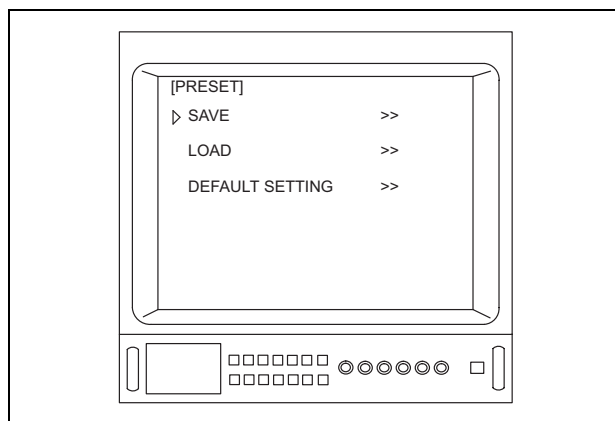

Figure 5.71
4. Depress the menu switches “◀” or “▶”, or the “↑/↓/←/→” key on the keyboard to move the arrow “▷” to “SAVE” (see Figure 5.71).
4. Depress the menu switches “” or “”, or the “” key on the keyboard to move the arrow “” to “SAVE” (see Figure 5.71).